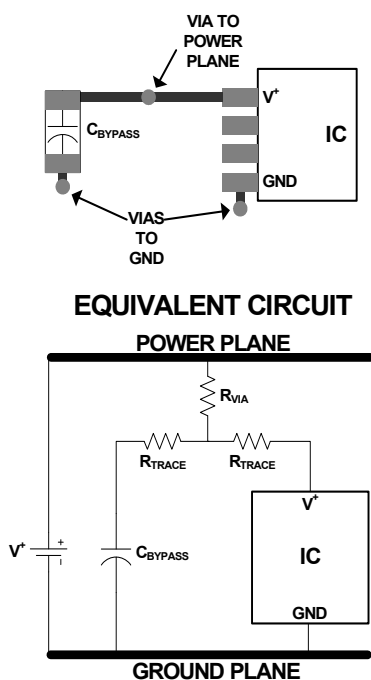
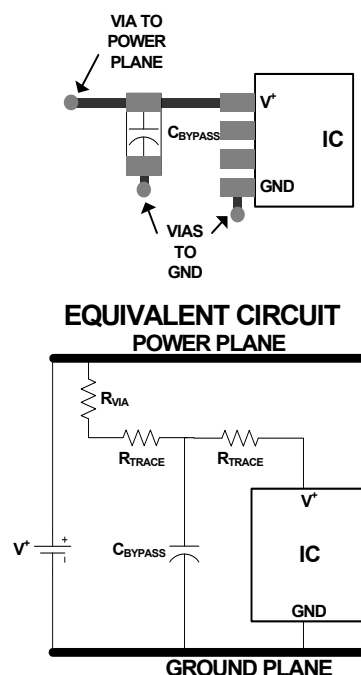

FIGURE 12. SUB-OPTIMAL BYPASS CAPACITOR LAYOUT
FIGURE 13. OPTIMAL (“T”) BYPASS CAPACITOR LAYOUT
- Ideally each supply should be bypassed to ground with a $0.1\mu F$ capacitor. Minimize trace length and vias to minimize inductance and maximize noise rejection. Figure 12 demonstrates a common but non-ideal PCB layout and its equivalent circuit. The additional trace resistance between the bypass capacitor and the power supply/IC reduces its effectiveness. Figure 13 demonstrates a better layout. In this case there is still series trace resistance (it is impossible to completely eliminate it), but now it is being put to good use, as part of a “T” filter, attenuating supply noise before it gets to the IC, and reducing the amount of IC-generated noise that gets
injected into the supply. Follow the good supply bypassing rules shown in Figure 13 to the extent possible.